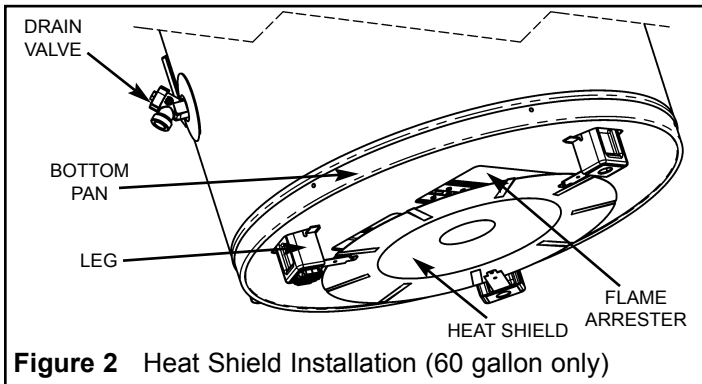

Figure 2 Heat Shield Installation (60 gallon only)
The 60 gallon heater is equipped with a Heat Reflector Shield (see Figure 2). This Shield reflects heat from the High-input heaters to prevent damage to combustible floors. The Shield is held in place by three (3) tabs that rest on the inside of the legs of the water heater. Ensure the Shield is positioned horizontally (parallel to the bottom of the heater) and in the designated position of 38mm (1.5 in.) below the flame-arrester.